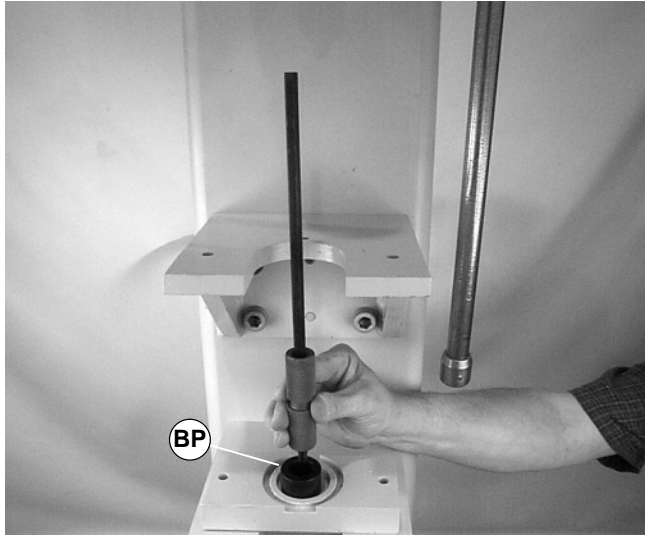

Figure 49
- Orient bearing anvil/sleeve removal tool (part # 25-09\*) (BP of Figure 49) with cavity facing up and place pulley onto tool.